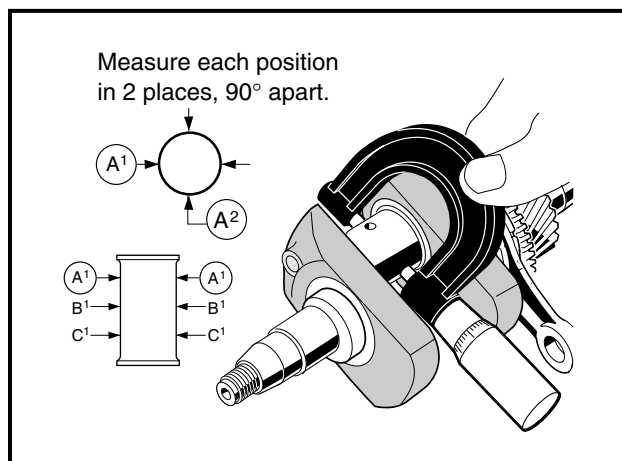

Figure 18-76 Measure Connecting Rod Journal
4. Use a micrometer to measure the connecting rod journal at several points along its length (Figure 18-76, Page 18-36).